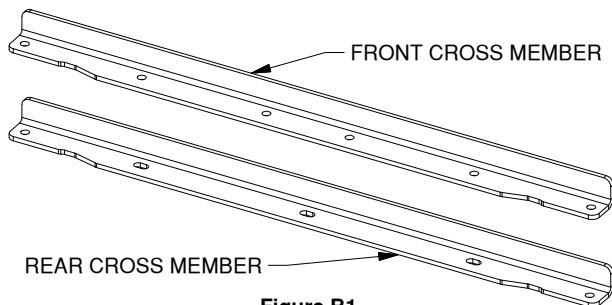
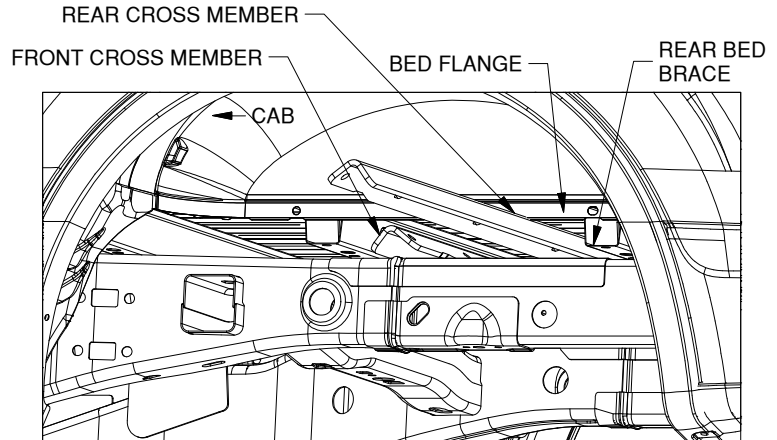

Figure B1
Figure B2: View of driver side wheel well.
1. **Place the front and rear cross members.** Locate the front and rear cross members, see Figure B1. Place them in the gap between the bed and the frame directly above the axle, shown in Figure B2. Slide the cross members across the frame until they span both frame rails. Push the front cross member forward and the rear cross member back until they are against the bed braces. The flange of the front cross member with the holes must be toward the rear of the truck. The flange of the rear cross member with the slots must be toward the front of the truck.